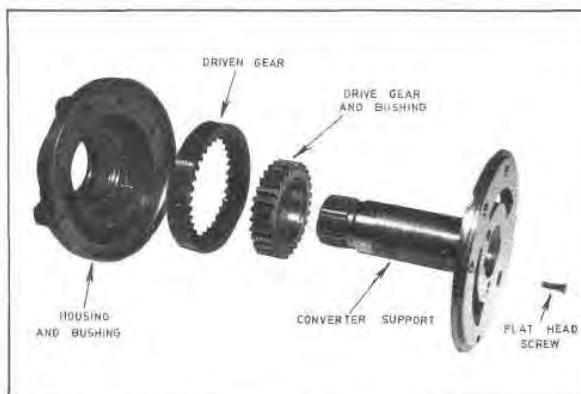

Fig. G82 — Front Pump Components
52. After carefully checking and cleaning all the pump components (shown in Figure G82 and outlined in the disassembly procedure), place the housing rear face down on a clean smooth surface under an arbor press. Place the oil seal assembly squarely into the